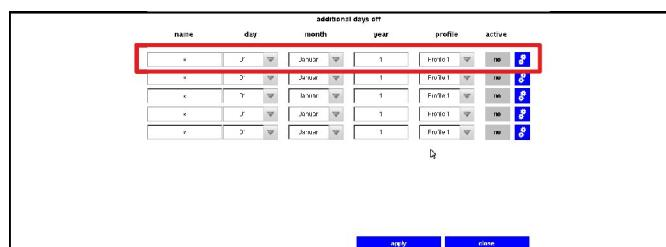

Fig. 35: Setting 'additional days off' (additional holidays)
- ▶ Press (Fig. 35) for an 'official day off' (public holiday).
- ▶ Press 'active' (Fig. 35) to activate the 'additional day off' (additional holiday).